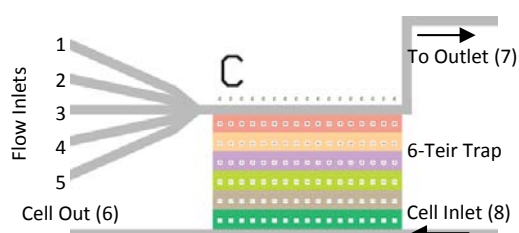
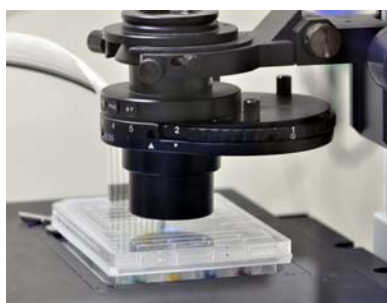

Figure 2. Unit Layout
Figure 3. Plate with Manifold on Stage
5. Place assembly on an inverted microscope (Figure 3). Focus on the center of the imaging area. The trapping region is 3×1.2 mm in size with 4.0, 0.7, 0.9, 1.1, 2.0, and 3.0 micron ceiling heights in series (from top to bottom) as depicted in Figure 2. A series of posts in the chamber maintain uniform ceiling height. The posts are numbered (1-6) in descending order.
9. Figure 3 shows the total flow rate out of each inlet well (col 1-5) at the specified pressures. Note: flow rates from channels 6, 7, and 8 will be over 10X those of the inlets.